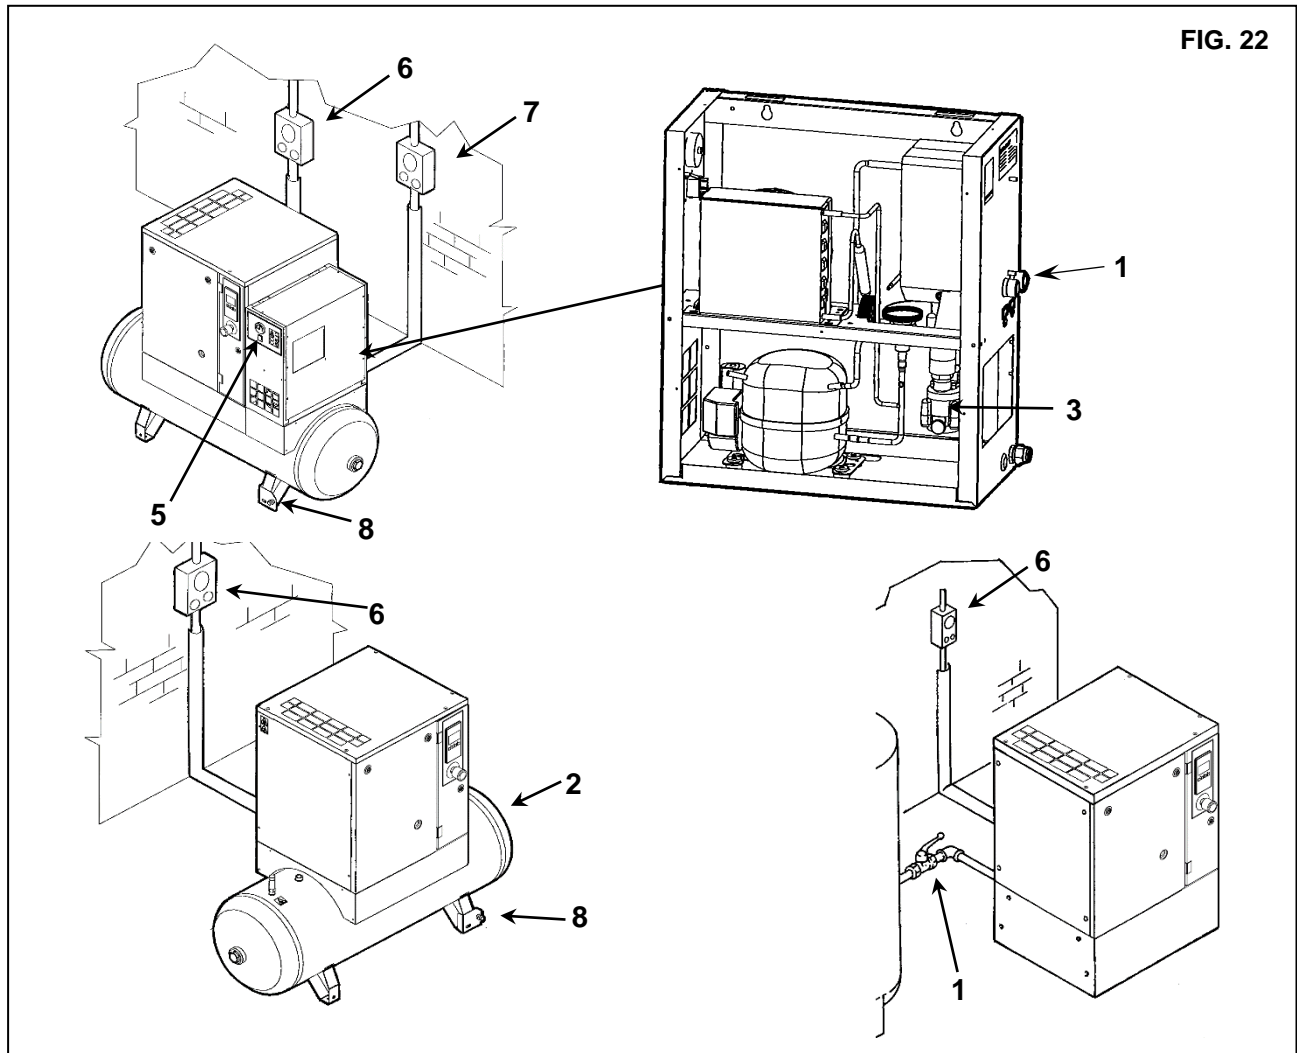

FIG. 22
16.0 PERIODS OF INACTIVITY (FIG. 22)
- Close the valve Ref. 1 and Ref. 2 Fig. 22.
- Press the button switch Ref. 5 Fig. 22 (if unit with dryer)
- Open (disconnect) the differential supply switch, Ref. 6 (on the compressor) and Ref. 7 (if unit with dryer) Fig. 22.
- Release the pressure from the dryer and air tank by opening the drain outlet valve Ref. 8 Fig. 22.
- Close the valve Ref. 8 Fig. 22 after the residual pressure in the unit is all released.